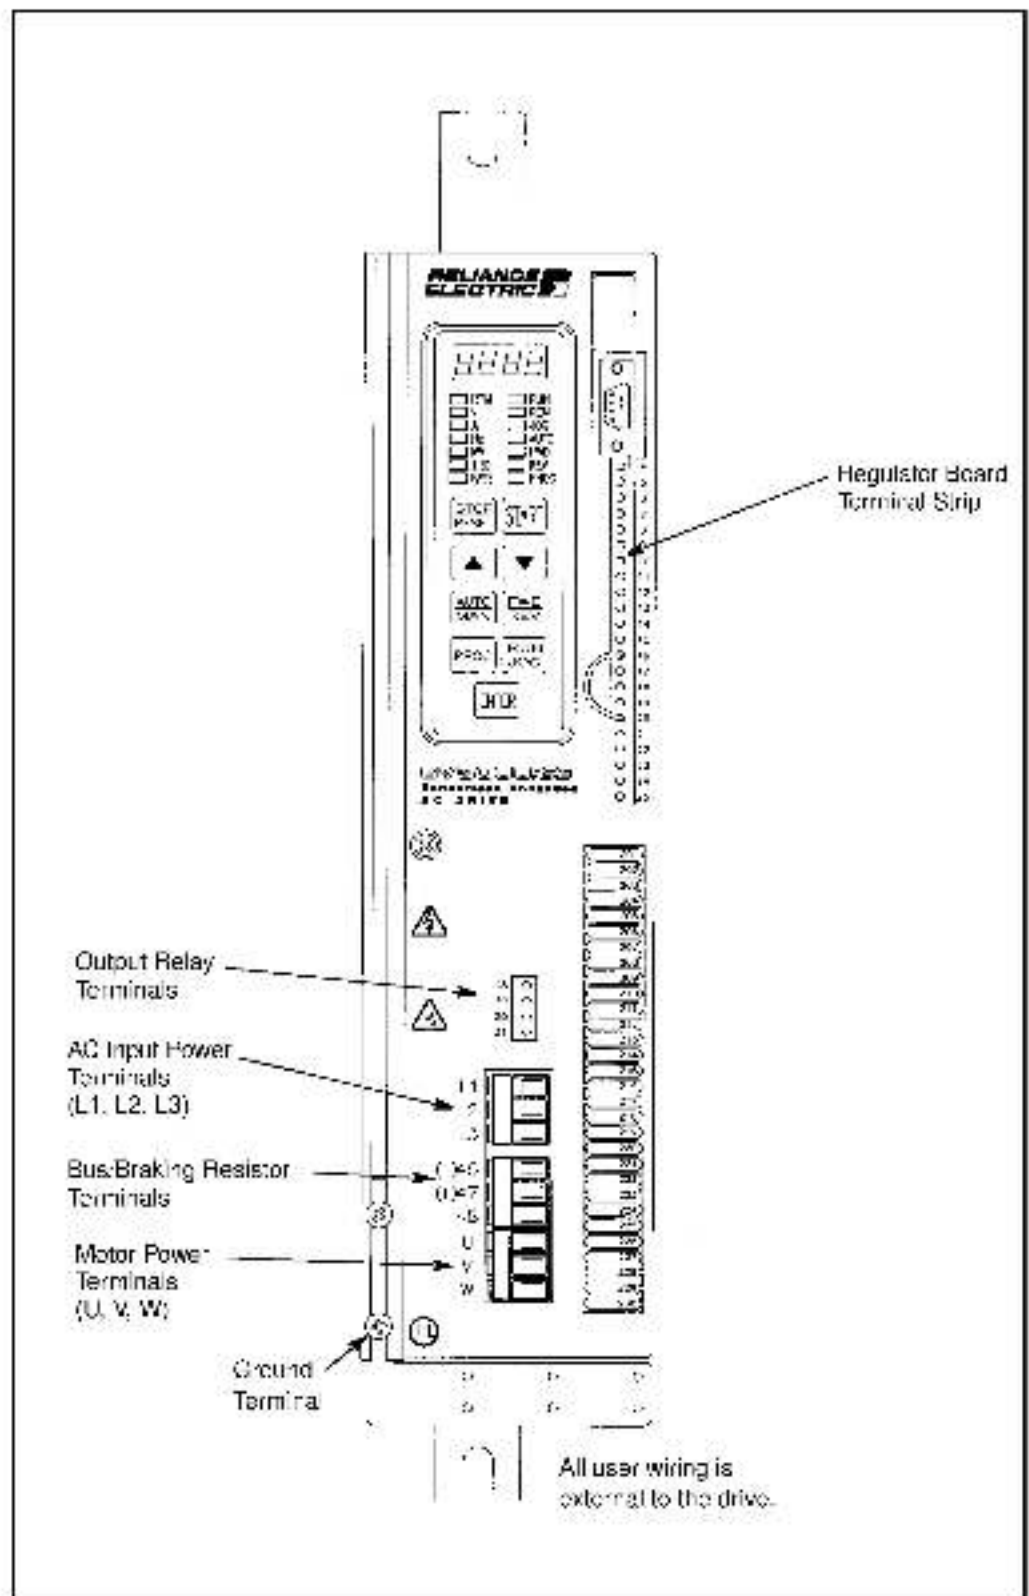
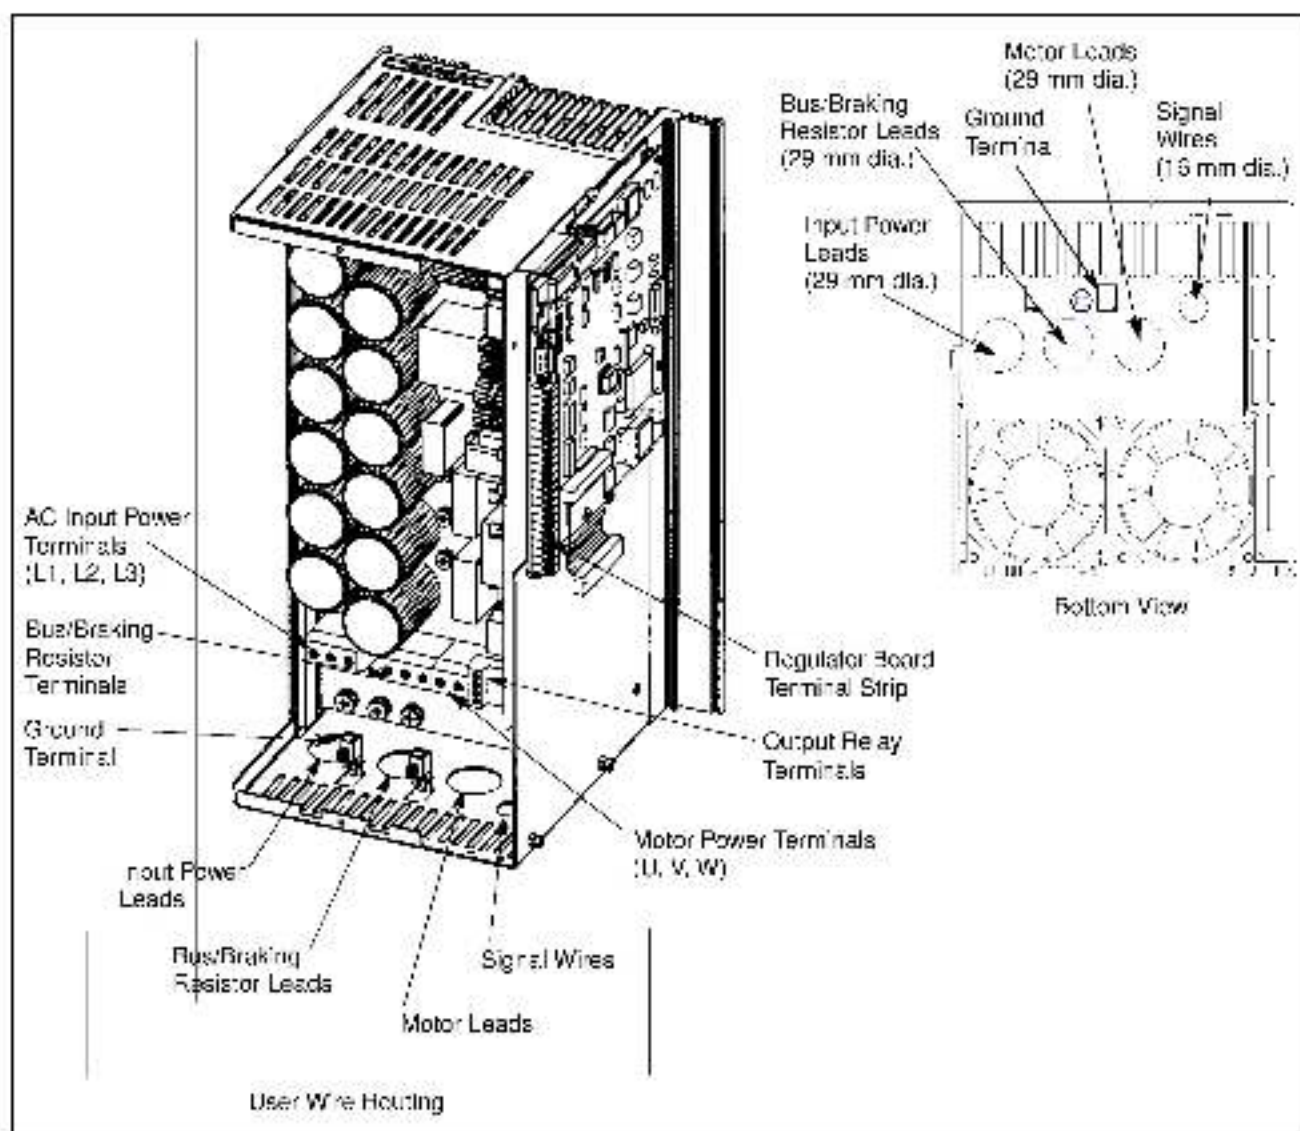

Figure 4.1 – Wire Routing Locations for 2 to 15 Amp Drives
Figure 4.2 Wire Faulting Locations for 24 to 30 Amp Drives
All wiring should be installed in conformance with the applicable local, national, and international codes (e.g., NEC/CEC). Signal wiring, control wiring, and power wiring must be routed in separate conduits to prevent interference with drive operation. Note that no wires are to be routed behind the drive. Use grommets, when hubs are not provided, to guard against wire chafing. Figures 4.1, 4.2, and 4.3 show the wire routing, grounding terminal, and power terminal strips of the GV3000/SE Bookshelf drives.
On 2 to 15 A drives, the grounding terminal is located on the drive faceplate (refer to figure 4.1). On 24 to 43 A drives, you will need to remove the drive faceplate and cover to access the grounding terminal (refer to figure 4.2 or 4.3).
- Step 1. Run a suitable equipment grounding conductor unbroken from the drive's ground terminal to the motor's ground terminal and then to earth ground. See figures 4.1, 4.2, or 4.3.
- Step 1. Wire the AC input power leads by routing them according to drive type. Refer to figures 4.1, 4.2, or 4.3. Tables 3.5 and 3.6 contain the recommended power wiring sizes.
- Step 1. Wire the three-phase AC output power motor leads by routing them according to drive type. Refer to figures 4.1, 4.2, or 4.3. Tables 3.5 and 3.6 contain the recommended power wiring sizes.